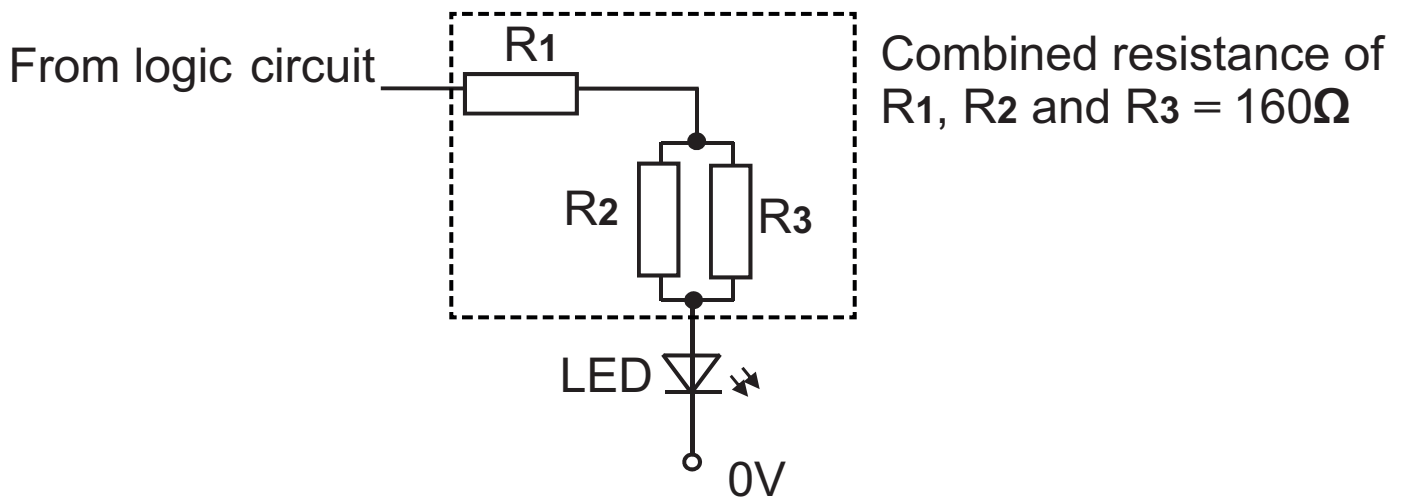
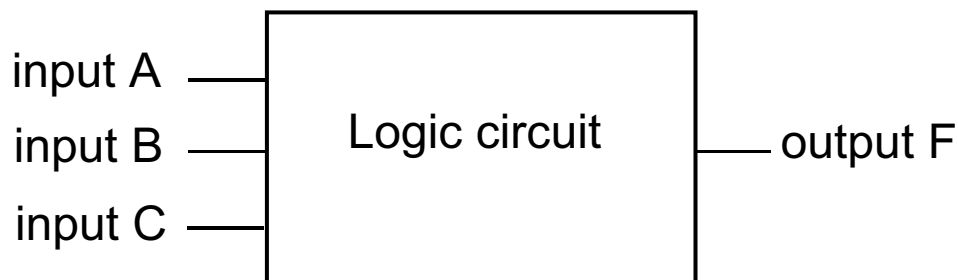
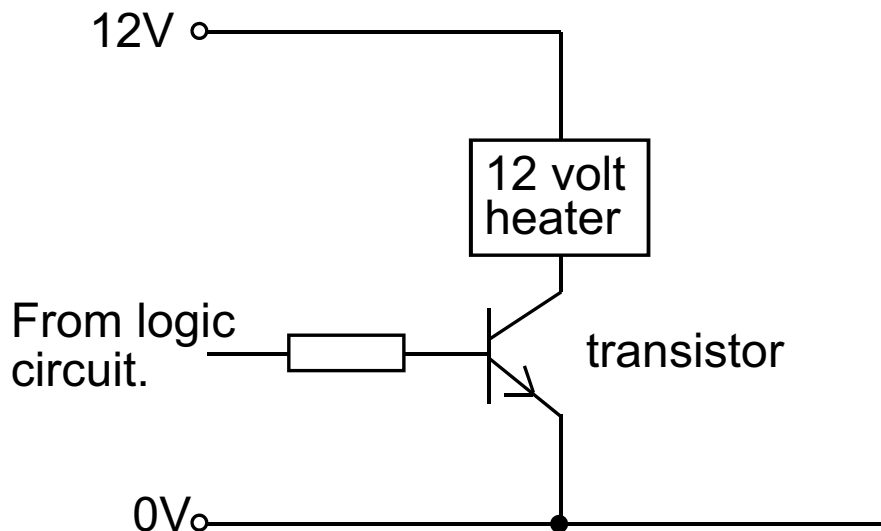

Fig. 1
Fig. 2
Fig. 4
- 1 (a) The output from a logic circuit is to be connected to an LED as shown in **Fig. 1**. The calculated value for a protective resistor is unavailable, so a number of resistors have been combined as shown to give the required calculated value of 160 ohms.
- (i) Calculate the required value for R_3 in **Fig. 1** to give a combined resistance of 160 ohms if R_1 and R_2 each have a value of 100 ohms. [3 marks]
- (ii) Calculate the total maximum power in mW that could be dissipated by the resistors R1, R2 and R3 in **Fig. 1** if the LED operates at a forward voltage of 2 volts. Assume the voltage from the logic circuit is 6V, the combined resistance of R1, R2 and R3 is 160 ohms and they each have a stated tolerance of $\pm 10\%$.
- (b) The LED in **Fig. 1** is illuminated by the output F from a logic circuit that has three inputs A, B and C as shown in **Fig. 2**.
- (i) The logic circuit shown in **Fig. 2** is made from a number of logic gates that have been connected to give a logic '1' at output F for the following logic condition:
- (c) The LED shown in **Fig. 1** is connected to the output of the logic circuit shown in **Fig. 2** and is to be replaced by a transistor and heater arrangement as shown in **Fig. 4**.
- (iii) If the resistance of the heater shown in **Fig. 4** is 25 ohms and the transistor base current is 2mA, calculate the gain required for the transistor and choose an appropriate transistor from one of the four types shown in the table in **Fig. 5**.